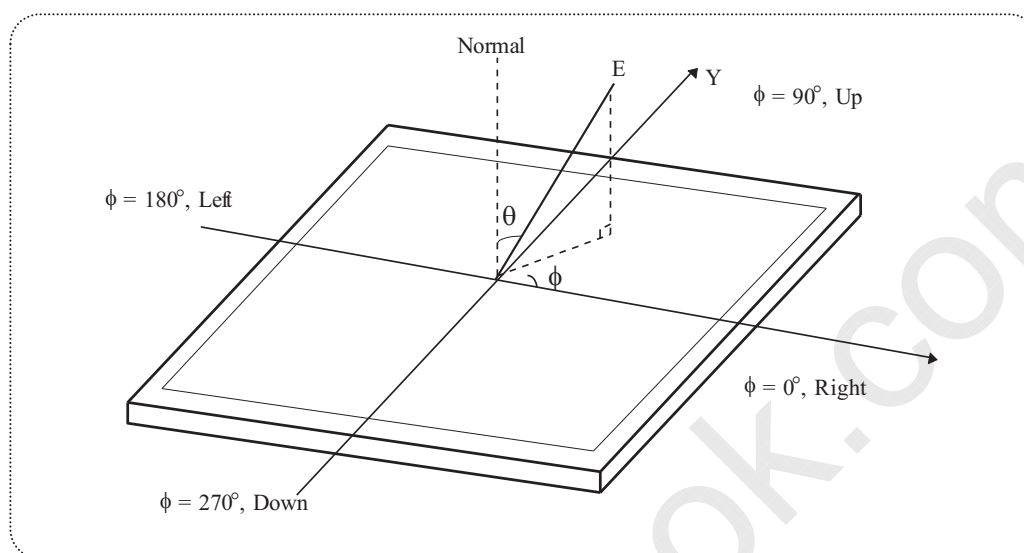

FIG.11 Viewing angle
6. Viewing angle is the angle at which the contrast ratio is greater than 10. The angles are determined for the horizontal or x axis and the vertical or y axis with respect to the z axis which is normal to the LCD surface. For more information see FIG.11 **(By PR880)**